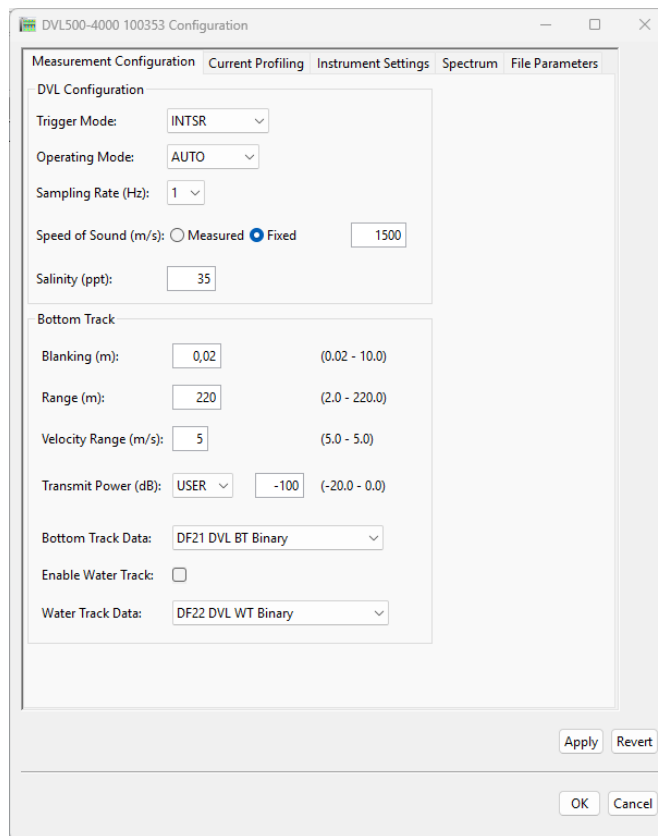

Figure 12: Midas Measurement Configuration
3. Open the configuration menu and set 'Measurement Configuration' tab with values shown in Figure 12. Note: Settings displayed below are for a 500kHz DVL. Other types of DVLs should be set with a similar value with respect to the DVL's performance.